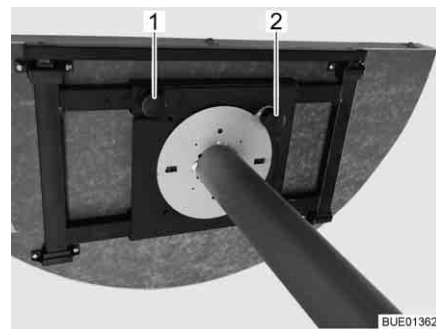

Fig. 97 Fixed table (from below)
- Loosen knurled screw (Fig. 97,1).
- Raise the (Fig. 97,2) adjustment knob.